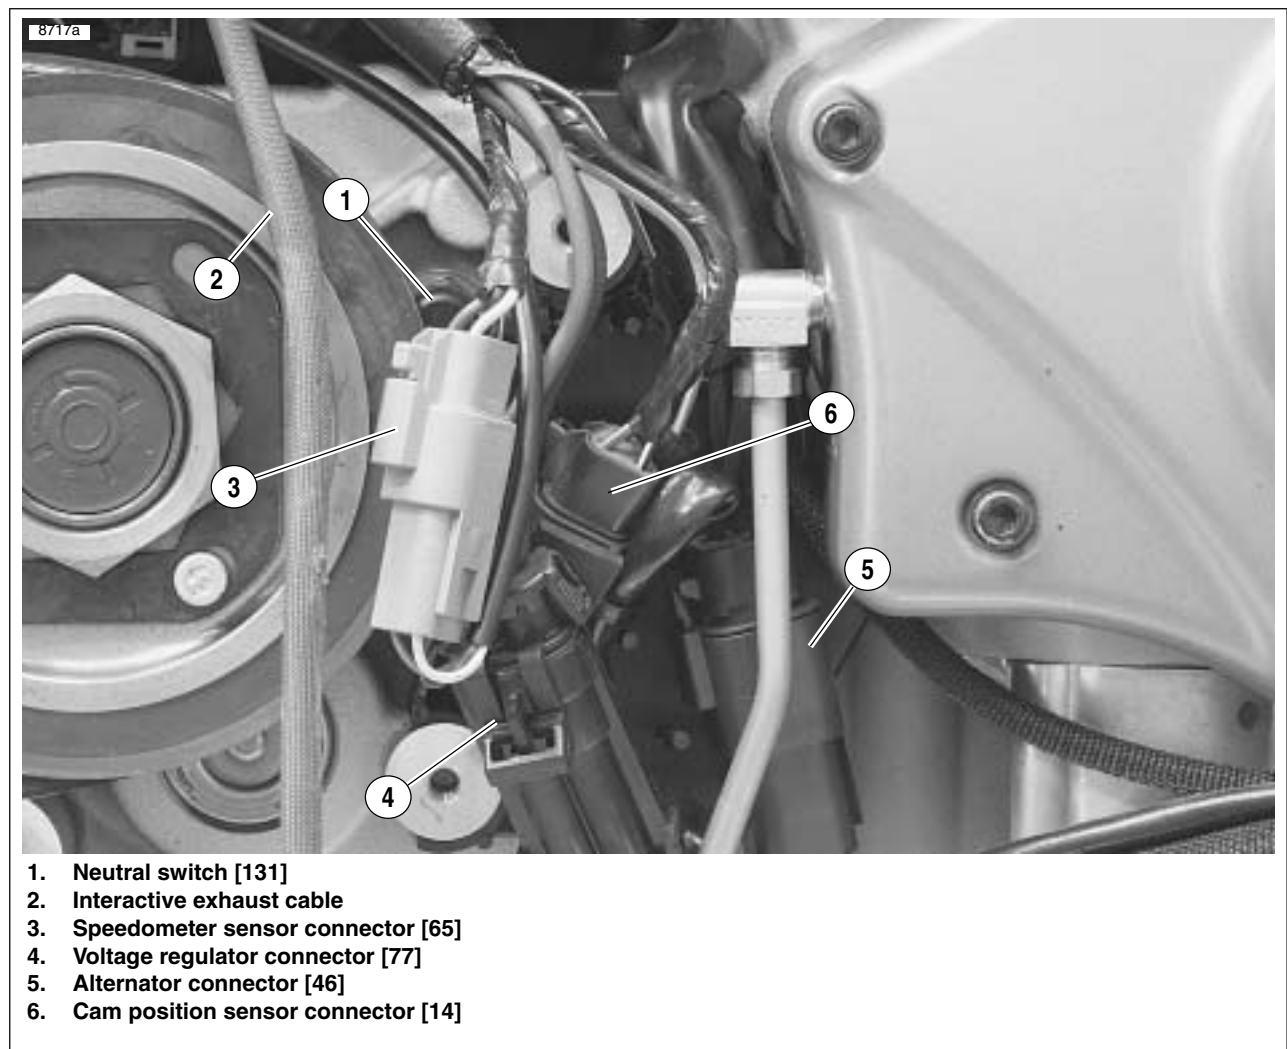

Figure 3-23. Electrical Connectors
- c. See Figure 3-23. Separate alternator connector [46] and voltage regulator connector [77].
30. See Figure 3-23. Disconnect electrical components: